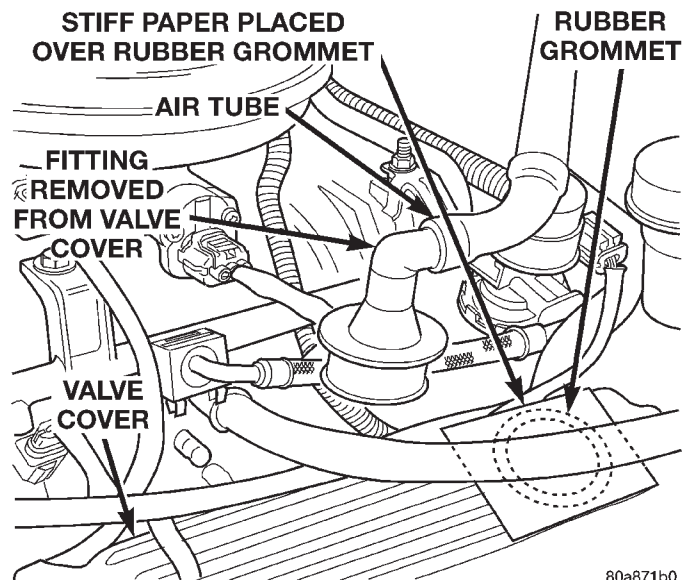

Fig. 17 Vacuum Check at Valve Cover Opening
(2) Return the PCV valve into the valve cover. Remove the fitting and air hose at the opposite valve cover. Loosely hold a piece of stiff paper, such as a parts tag, over the opening (rubber grommet) at the valve cover (Fig. 17).